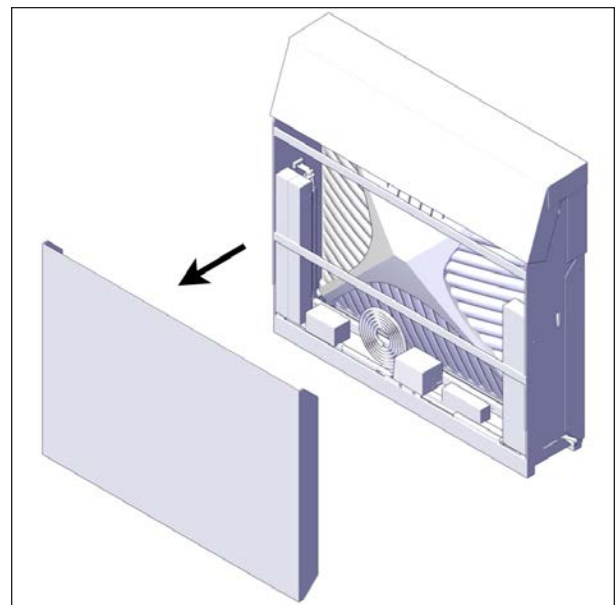

FIGURE 18: REMOVAL OF THE CARDBOARDS
2. Remove both cardboards see Figure 18.